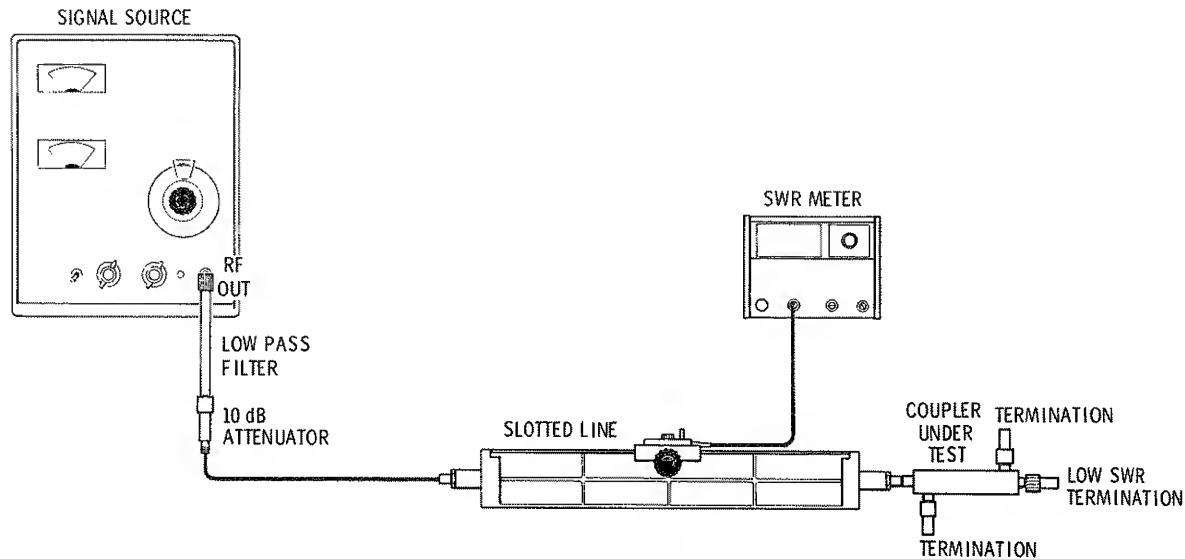

Figure 9. Fixed-Frequency Primary-Line SWR Test Setup
- Connect the equipment as shown in Figure 9.